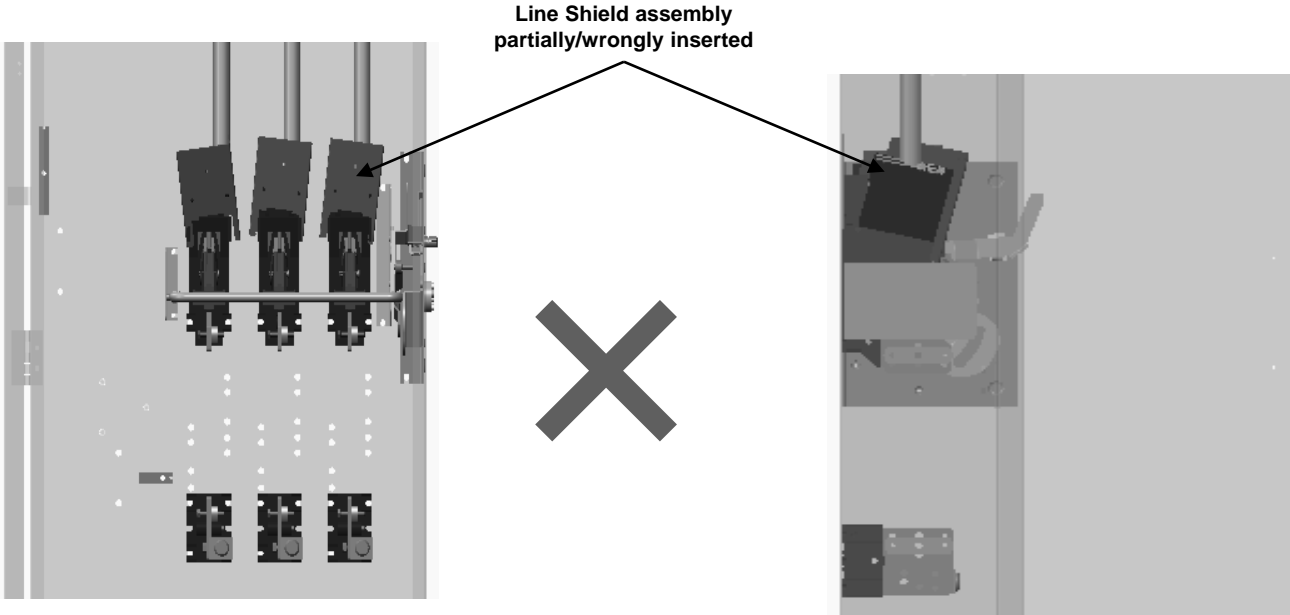

Fig. 5
6. The incorrect orientation of the closed barrier assembly. Fig. 5